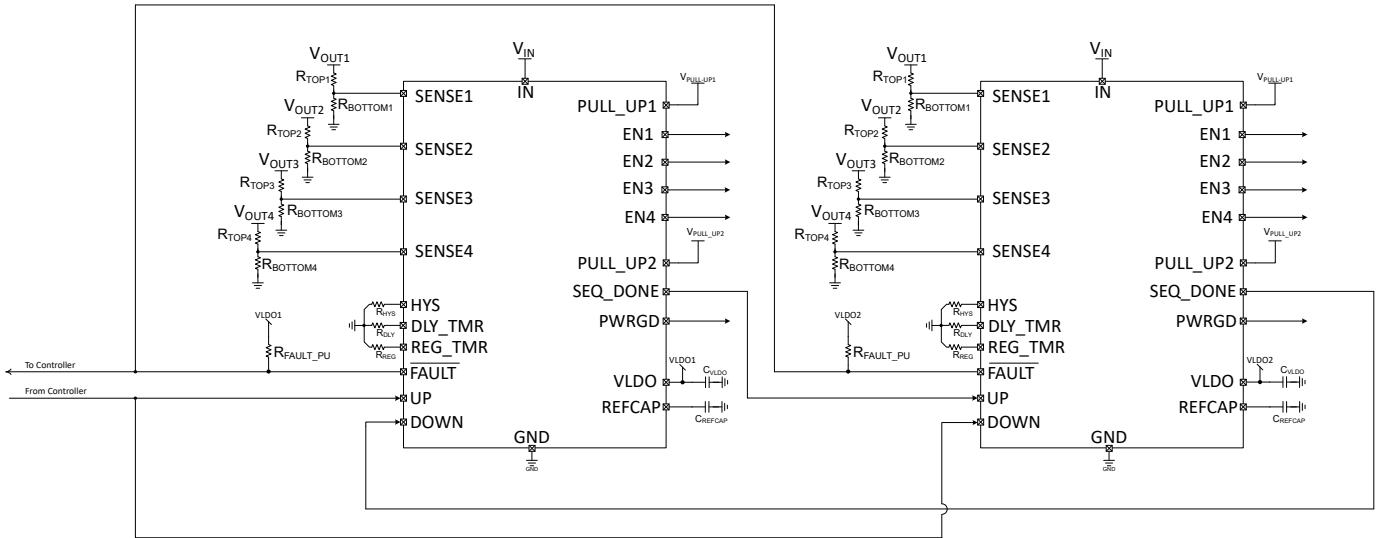

图 8-15. Daisy Chain Configuration
The TPS7H3014 incorporates four input channels to sequence/monitor up to four voltage rails. However, in the case where more than four channels are needed in the application, multiple devices can be daisy chained as needed. The daisy chain configuration is shown in 图 8-15. In this case, only two devices are shown, however multiple IC can be configured as needed by the application.
3. PULL_UP2, which is the input supply to program the output voltage high (V_{OH}) of PWRGD and SEQ_DONE outputs. These outputs are typically connected to the system controller (typically an FPGA or ASIC) and/or to the house-keeping controller. In daisy chain configurations, SEQ_DONE is connected to UP of subsequent TPS7H3014 I.C. as shown in 图 8-15. It is recommended to decouple this power supply with at least 1 μF as close to the pin as possible. In this application, the V_{PULL_UP1} = 3.3V. This is a typical voltage of controller I/Os.